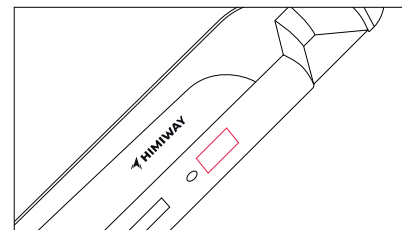

Figure 5
**NOTICE:** Please write down the serial number found on the battery beneath the barcode (fig. 5) on the inside front cover of this manual to facilitate failure reporting. Products that have the serial number and/or barcode removed, defaced, damaged, altered, or made illegible will not be covered by the warranty.